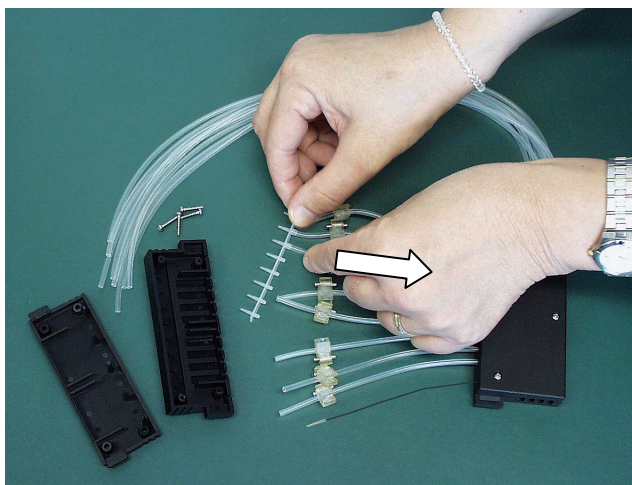

Fig. 7.12 Removing the old tip band
3. Remove the tip manifold, the tube fasteners and the rest of the tubing from the lower part of the dispensing cassette. Then detach the tip band from the tubing by pulling the tubes away from the tip band (*Fig. 7.12*).